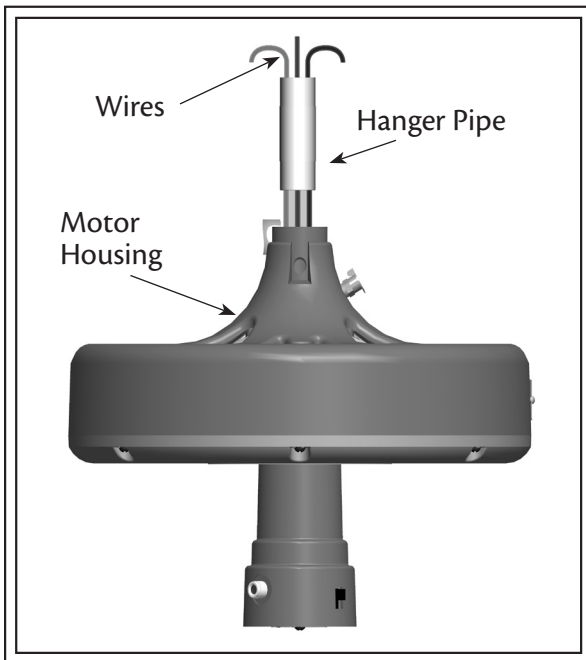

Fig. 3
1. Feed the wires from the top of the fan motor through the hanger pipe (see Fig. 3).